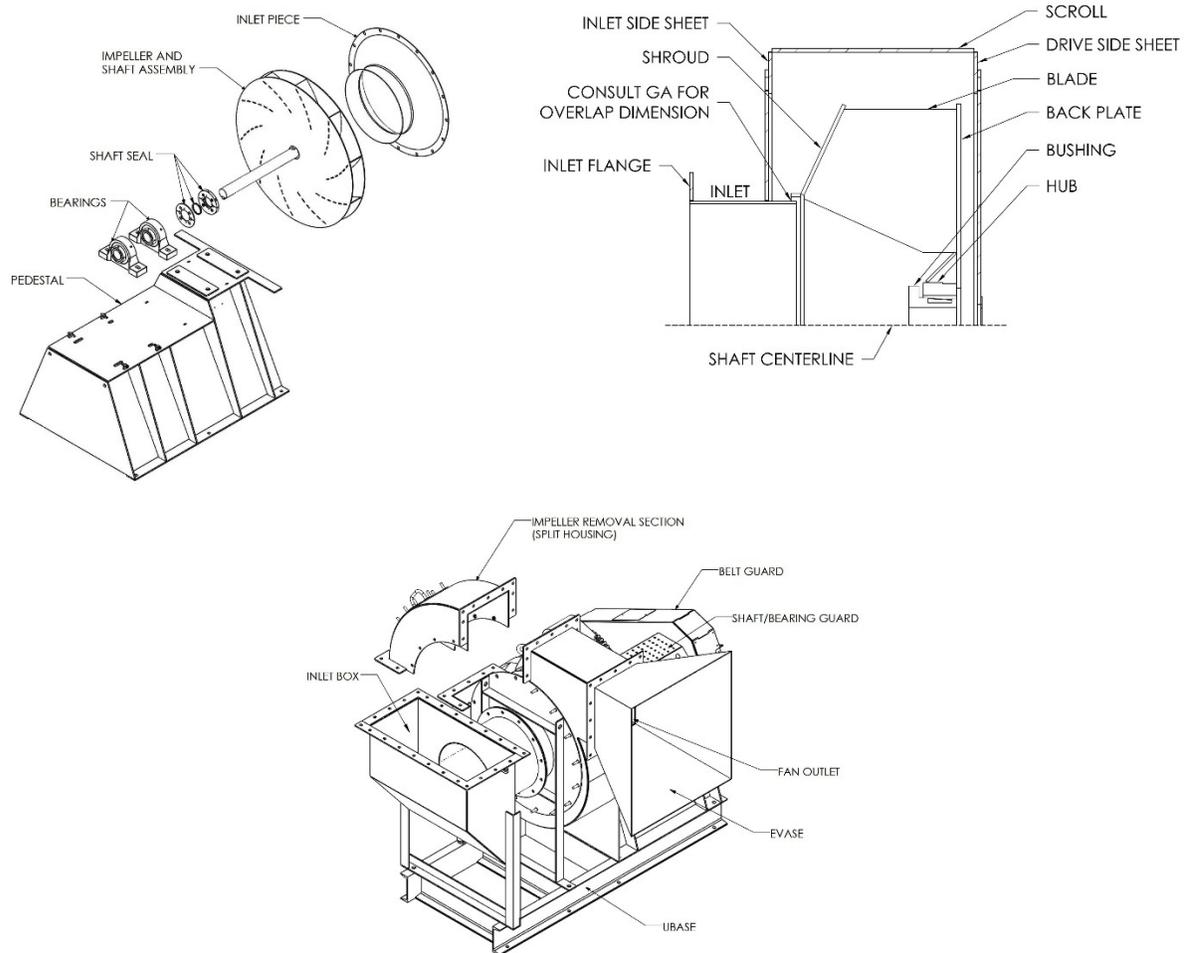

Figure 1 Schematics for Reference Only
- b) Inlet vanes, inlet box pieces, inlet cone, and shaft seals need to be installed on the shaft before installing and bolting the bearings into place. (See *figure 1*)